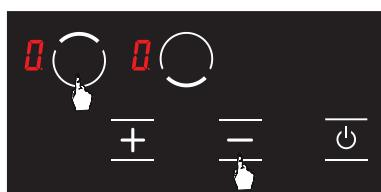

Figure 18
2. Press upper hob selection key (\square) and minus key (\blacksquare) simultaneously. (see Fig. 18) You shall hear a short warning signal at this time. Then, remove your fingers from the stove control panel.